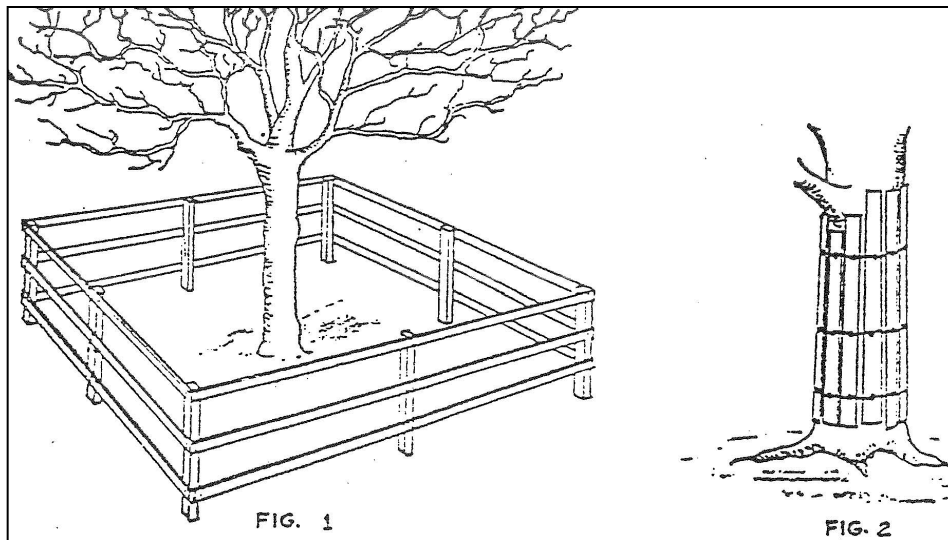

Figure: 01 50 00-1
- iii. Not be lifted or removed at any time for vehicular and equipment access, to prevent soil compaction in the root zone and air depletion. (see figure: 01 50 00-1)
4. When a fenced area is impractical, wrap tree trunks with burlap protected with 19mm x 50mm planks extending from grade to the lowest limbs. Planks shall be placed close together and secured in place with three bands of stapled wire. (see figure: 01 50 00-1)